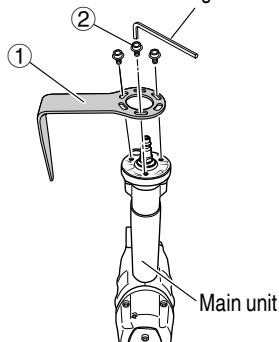

Fig. 1
- Fix the hook (1) to the main unit in three locations using the M5 x 16 flange bolts (2) (Fig. 1).